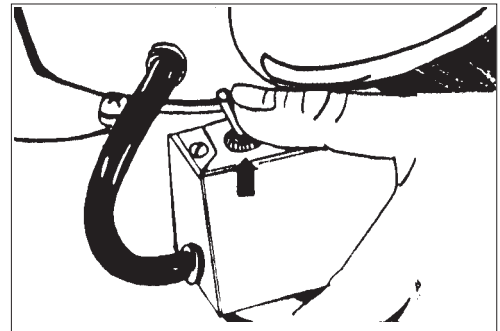

Figure 6
3. Tilt the machine back so that the sanding pad does not contact the floor. See figure 5.1. Select cutting speed. Use high speed for fast stock removal. Use low speed for finish cuts and custom work. See figure 6.